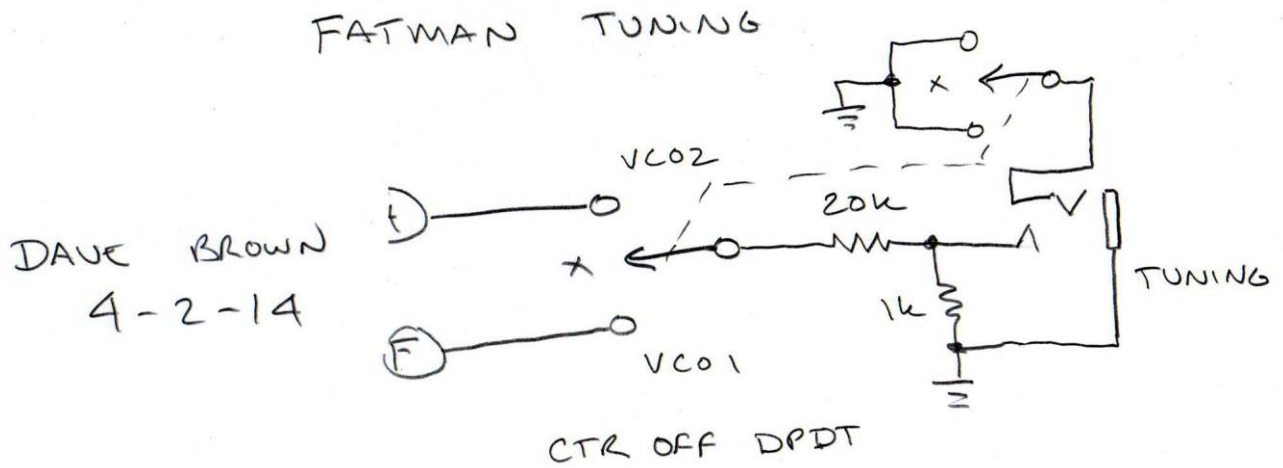

Figure 5
12. Guitar Tuner Output: Wire new output connector on rear. Add DPDT center off switch to select VCO1 or VCO2 to tuner jack attenuated through 20K and 1K resistor network for guitar tuner (figure 5). Use a stereo patch cable and the tuner will turn off in the center off position.